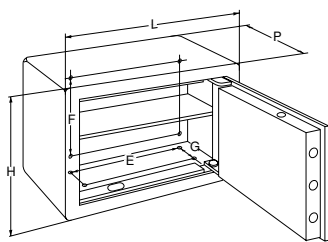

Fig. 1
- The safe is supplied with 4 fixing holes on the bottom and 4 on the back (10 mm diameter); their position changes according to the size of the safe. It is thus necessary to check the external dimensions of the safe, then refer to the table (see Fig. 1) to drill the fixing holes. It is also possible to use all 8 fixing holes.
Should you wish to use the steel base (articles 07125-00 and 07125-01, available for a few versions only) check dimensions of the fixing holes in table in Fig. 1. The safe must be fitted to the base with 4 M8 screws (supplied as standard).